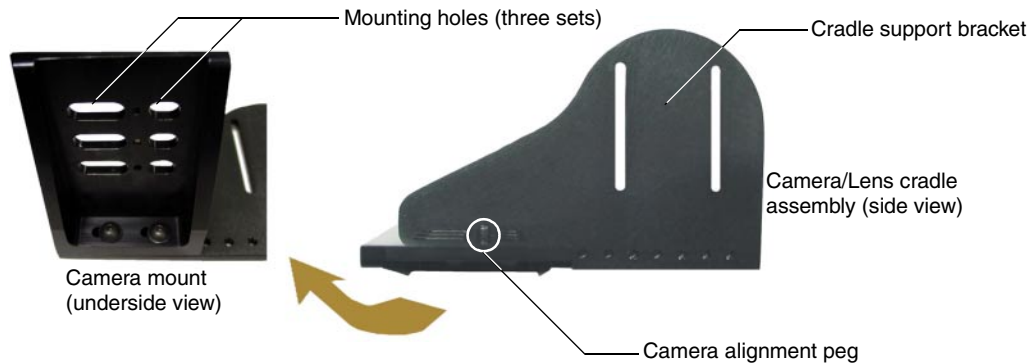

FIG. 7 Camera/Lens cradle assembly (camera mount and lens mount)
2. Separate the camera mount and cradle support bracket by removing the two ½" screws on the underside of the assembly (FIG. 7) using a 3/32 Allen wrench.
4. Secure the camera/lens to the cradle (at the camera alignment peg) with the screw and fastener supplied with the camera/lens (see FIG. 7).